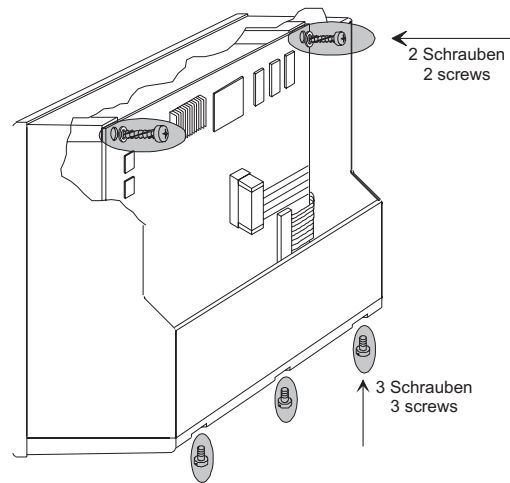

Fig 8-12: Fixing main pcb and connector panel
16. Fix main pcb with two screws. Install and fix connector panel with three screws (fig. 8-12).